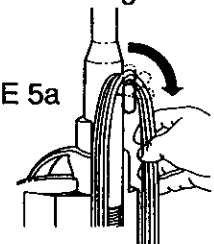

FIGURE 5a
- To ready the machine for use, rotate the Upper Cord Hook to the down position, then remove the Power Cord from the Upper and Lower Hooks. (Figure 5a)